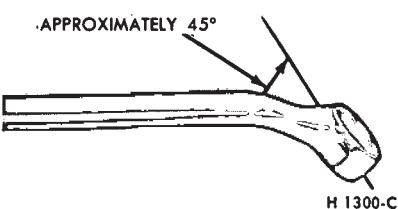

FIG. 5—Wrench for Bleeding Brake Hydraulic System
2. To bleed the secondary (rear) brake system, position a suitable 3/8 inch box wrench (Fig. 5) on the bleeder fitting on the brake wheel cylinder. Attach a rubber drain tube to the bleeder fitting. The end of the tube should fit snugly around the bleeder fitting.
4. If the rear wheel cylinders, the secondary brake system, are to be bled, position a 3/8 inch box wrench (Fig. 5) on the bleeder fitting on the right rear brake wheel cylinder. Attach a bleeder tube to the bleeder fitting. **The end of the tube should fit snugly around the bleeder fitting.**